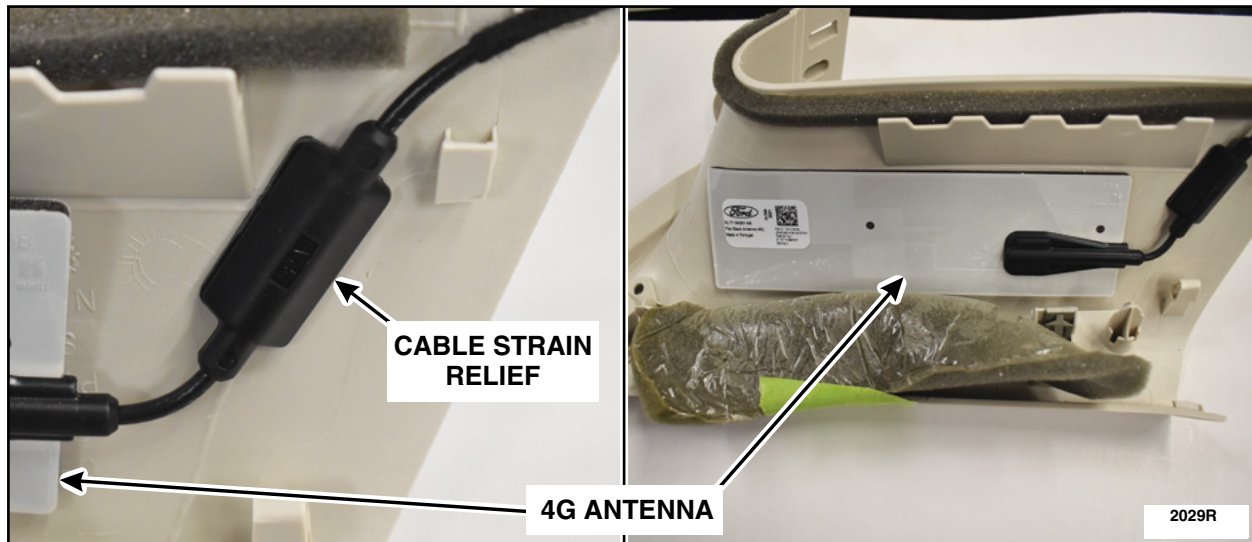

FIGURE 4
5. Install the *new* 4G antenna. See Figure 4.